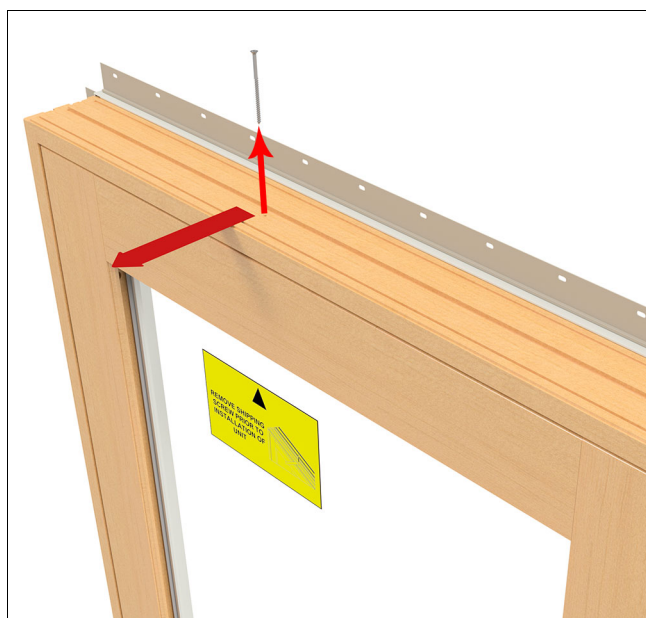

Figure 8 Remove shipping screw from operator panel.
2. Remove the shipping screw in the top of the frame, holding the operator panel in place. A decal and tab will mark its approximate location. See Figure 8.